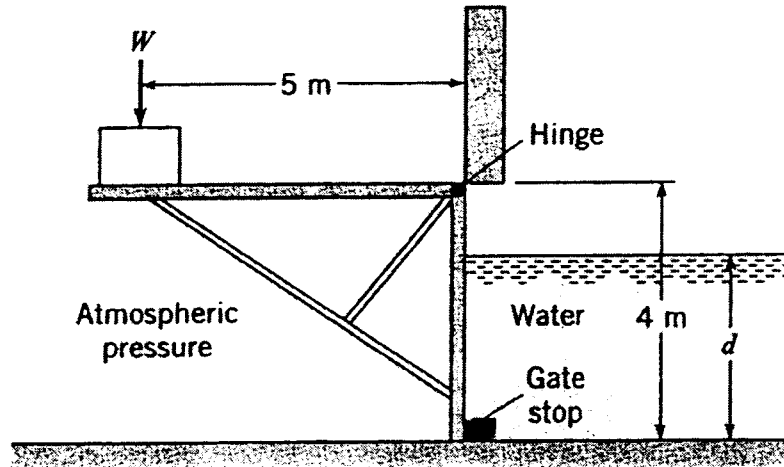

Figure Q3[a]
- Q3. [a] Estimate the depth d needed for the rectangular gate to automatically open if the weight $W = 60$ kN as shown in Figure Q3[a]. The gate is 4 m high and 2 m wide. Neglect the weight of the gate.